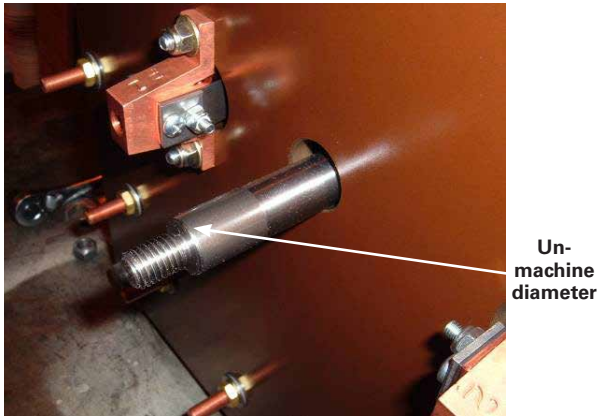

Figure 10.
- To install the geneva gear, insert the steel shaft into the back of the phenolic panel and through the hole in the movable contact board. The un-machined diameter on the main shaft should be sticking out the back phenolic panel (see Figure 10).